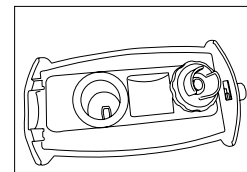

Fig. 4-2
2. Unscrew the tank's cover counterclockwise (Fig. 4-2).